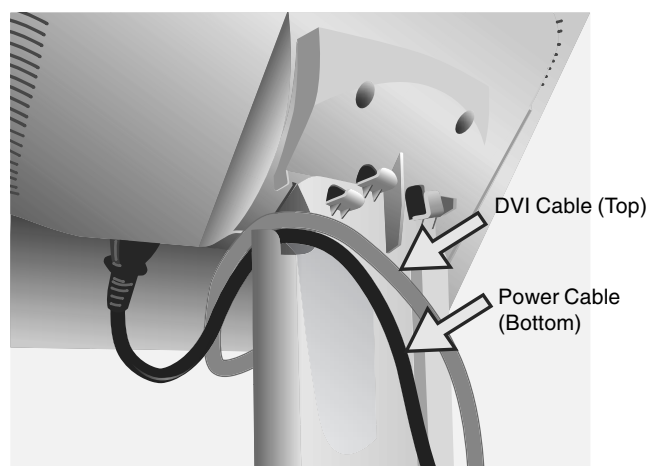

Figure C.2
5. For successful cable management, place the cables in this order into the cable management: power cable and DVI cable (**Figure C.2**).